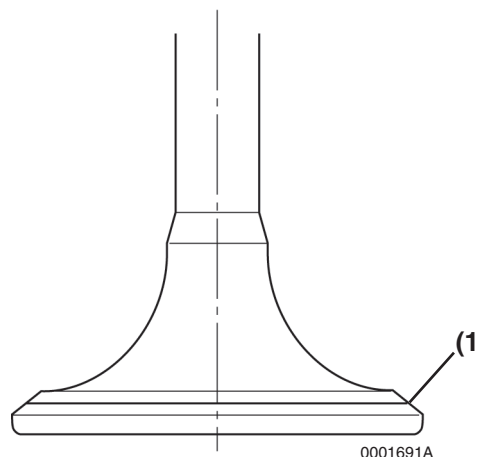

Figure 6-21
Always check the clearance between the valve and valve guide before correcting the valve seat (**Figure 6-21, (1)**). If the clearance exceeds the limit, replace the valve or valve guide to bring the clearance within the limit.